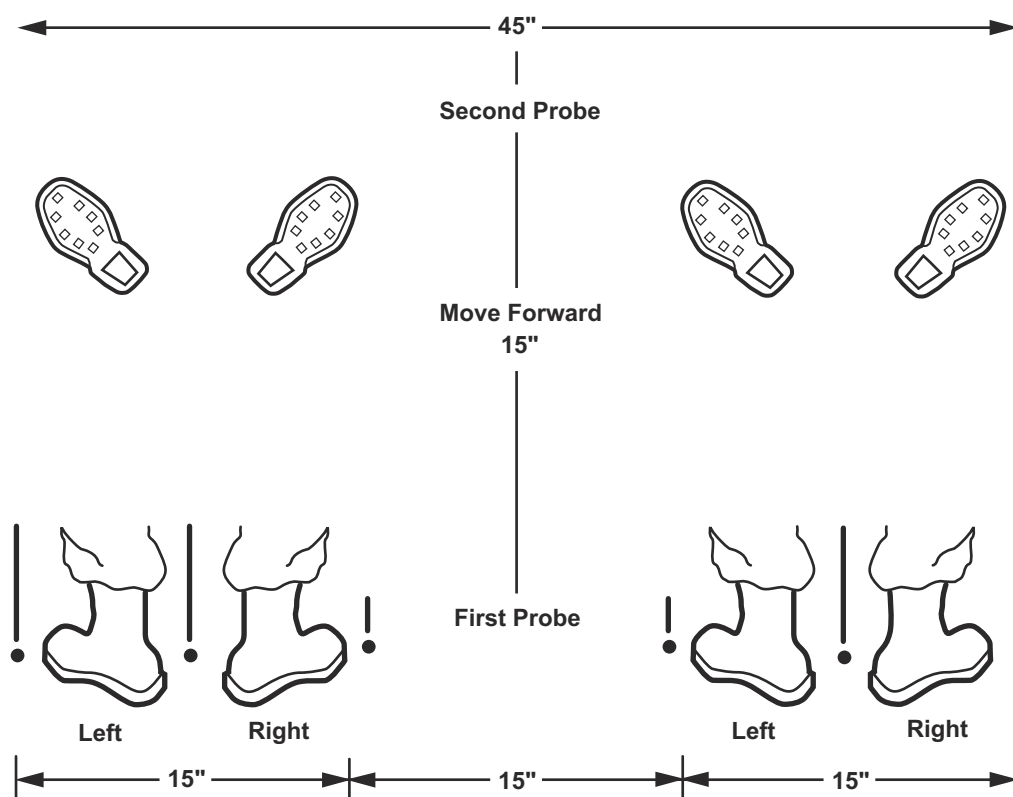

Figure 6-20. Fine Probe.
- Probing is performed over the left, middle, and right foot, as in figure 6-20.